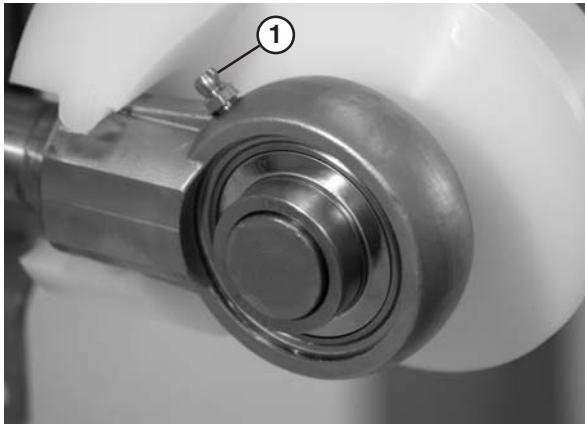

Figure 41
1. Add grease to the bearing using the zerk fitting (**Figure 41, item 1**) on the exterior of the bearing shaft assembly.